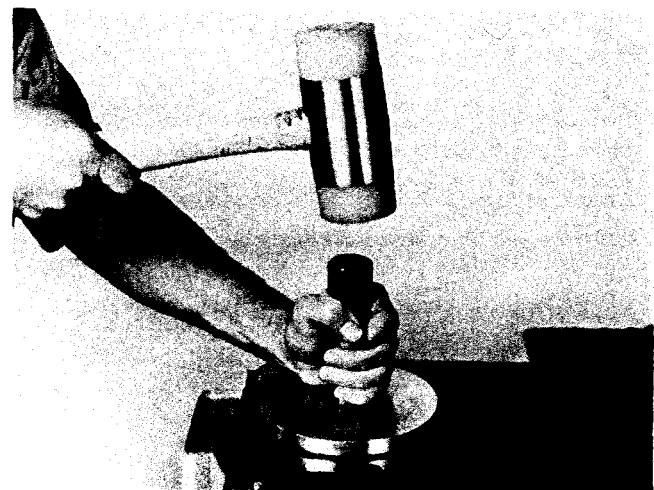

Fig. 14-3, (N114240). Installing cylinder liner
4. Place liner in block by hand, being careful to avoid dislodging "O" rings and crevice seal. Press liner into position. Use ST-1229 Liner Driver to drive liner securely into the block so it fits squarely into block bore. Fig. 14-3.